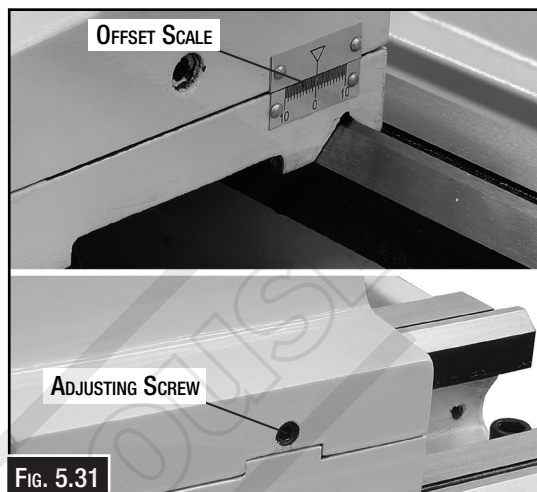

FIG. 5.31
By offsetting the tailstock, the dead center can hold a workpiece off centre from the spindle centerline so tapers and pipe threads can be cut. An offset scale (Fig. 5.31) with increments is located at the rear of the tailstock. However, to achieve exact taper angles, or to adjust the tailstock back into the spindle centerline, angle gauges and a test indicator must be used.
2. Using a hex wrench loosen one of the front or rear adjustment screws shown in Fig. 5.31